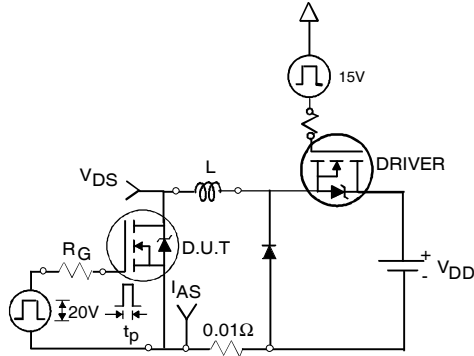

Fig 12a. Unclamped Inductive Test Circuit
- ⑥ C_{oss eff.} is a fixed capacitance that gives the same charging time as C_{oss} while V_{DS} is rising from 0 to 80% V_{DSS} .
- ⑦ Calculated continuous current based on maximum allowable junction temperature. Package limitation current is 75A.
- ⑧ Limited by T_{Jmax} , see Fig.12a, 12b, 15, 16 for typical repetitive avalanche performance.
3. Equation below based on circuit and waveforms shown in Figures 12a, 12b.